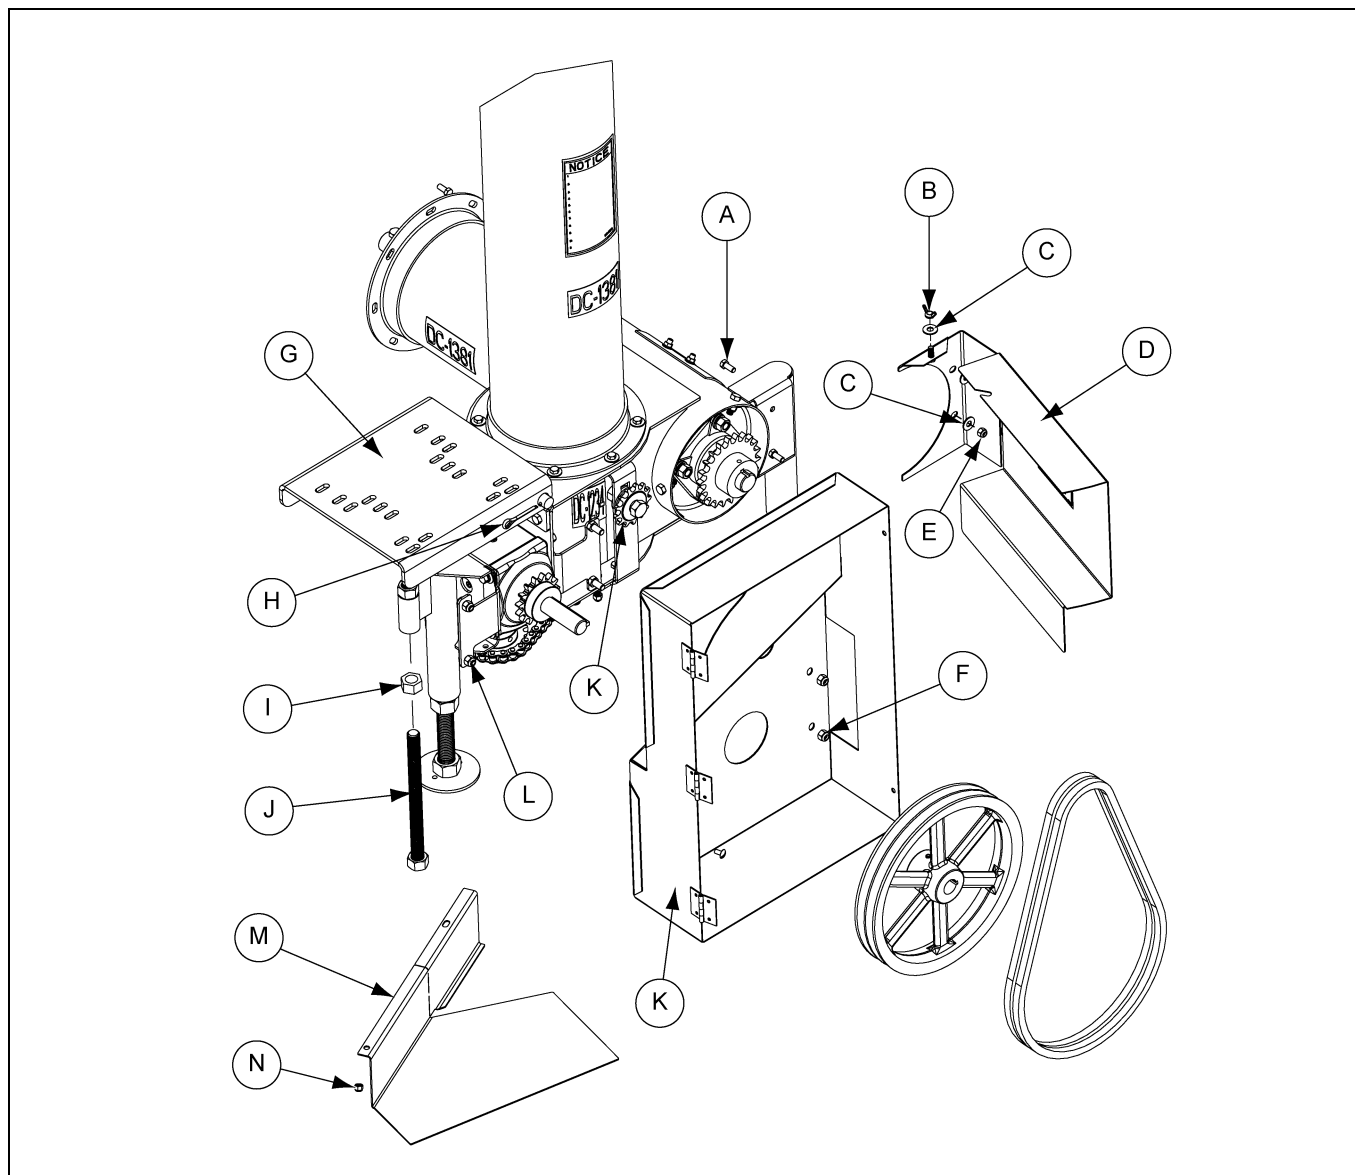

Figure 4C 6" and 8" Vertical
1. Assemble a 3/4" nut onto threaded adjustment rod. Then thread adjustment rod into the 3/4" nut that is welded onto the sleeve of vertical. (See Figure 4C.)
2. Slide motor mount plate (G) onto pivot rod weldment of vertical. Install cotter pin (H) to hold motor mount plate (G) place.
3. Attach belt guard (K) to belt guard mounting brackets with four (4) 3/8" x 3/4" long HHCS (L) and nylon lock nuts.
4. **6" and 8"**: Attach hinged side chain guard to vertical with two (2) 5/16" x 3/4" long HHCS (A), flat washers (C) and nylon lock nuts (E). Hold chain guard closed by using a 5/16" flat washer (C) and wing nut (B). *(See Figure 4C.)*
5. **6" and 8"**: Bolt lower chain guard (M) to underside of vertical using two (2) 5/16" x 3/4" long HHCS (A) and nylon lock nuts (E). *(See Figure 4C on Page 17.)*
7. Install a 4-1/2" O.D. pulley for 6" and 8" models on motor and for 10" models use a 4" O.D. pulley on motor. *(This pulley not furnished.)* Install 12" pulley on gearbox shaft as close to the sprocket as possible that is already mounted there. Using the 1/4" square key, which should already be in place, tighten set screws in pulleys. *(See Figure 4C on Page 17 and Figure 4D on Page 18.)*